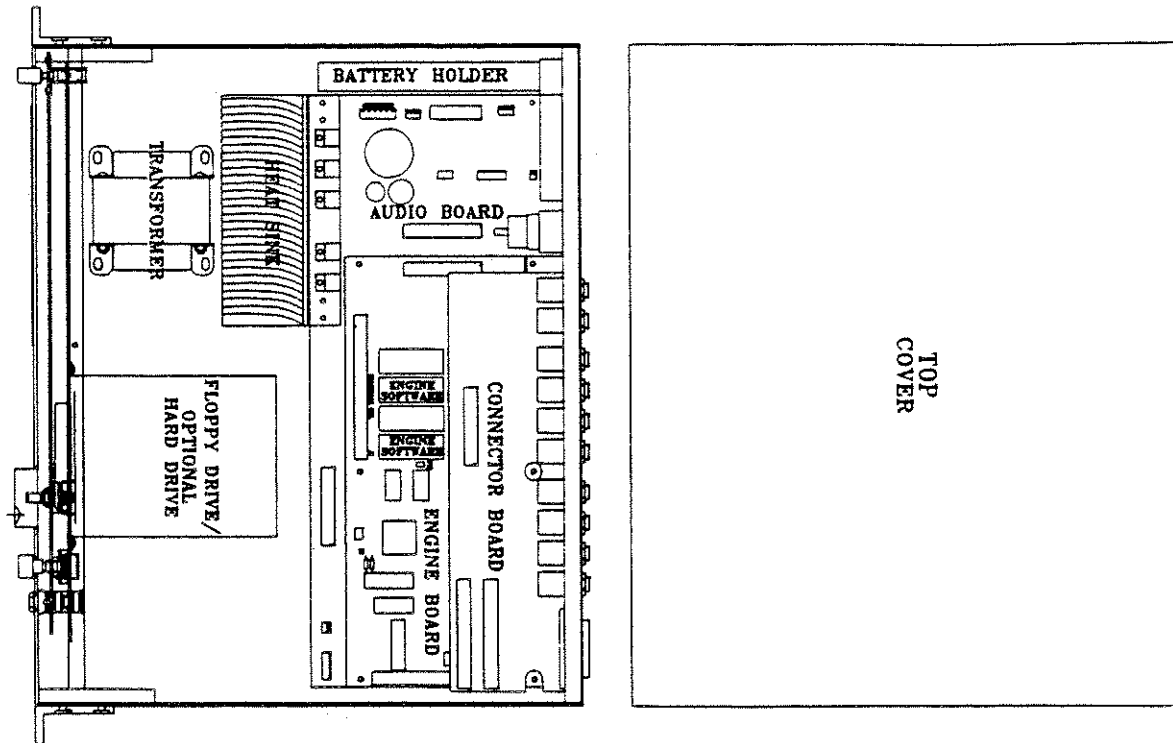

FIGURE 5
3. Slide the cover away from you and lift it off. See figure 5.
to figures 5 and 6, and locate the capacitor labeled C15 on the Engine board. Solder the cable's green wire to the side of the capacitor toward the rear of the unit (the side closest to the label "C15").
6. Locate the 64-pin connector labeled "PROCESSOR EXP" (j1) near the left front corner of the Engine board. See figures 5 and 6.
7. Remove the two screws to the left and right of connector J1. Save these screws, as you will reuse them to secure the P-RAM Option board. Disregard item 4 (the M3 x 14 mm screws) as they are intended for the K2000 only.
8. Take the P-RAM Option board (item 1) and with the components facing up, press its connector into connector J1 on the Engine board. The P-RAM Option board (item 1) and with the components facing up, press its connector J1 on the Engine board. The P-RAM Option board connector is keyed to prevent improper connections.
9. Put one lock washer (item 5) on each of the screws that you removed in Step 7.
10. Insert one screw and washer through the hole in each of the mounting brackets (item 3).
12. Take the P-RAM Option board cable (item 2) and plug it onto the keyed connector on the P-RAM Option board. The installation is now complete, and you can reassemble the unit.